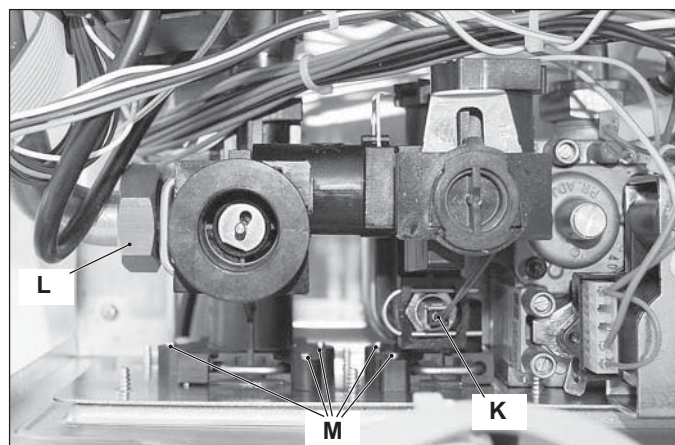

Figure 8.7
- 6 Unscrew the connector L (Figure 8.7), the c.h. flow connector and the d.h.w. outlet connector.